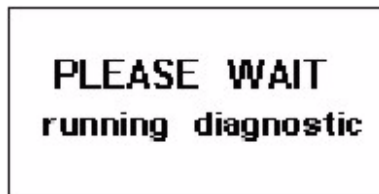

Figure 11 - LCD Display - Running Diagnostic
- 1.3 The pump will first go through a self-test routine (Refer to Figure 11).